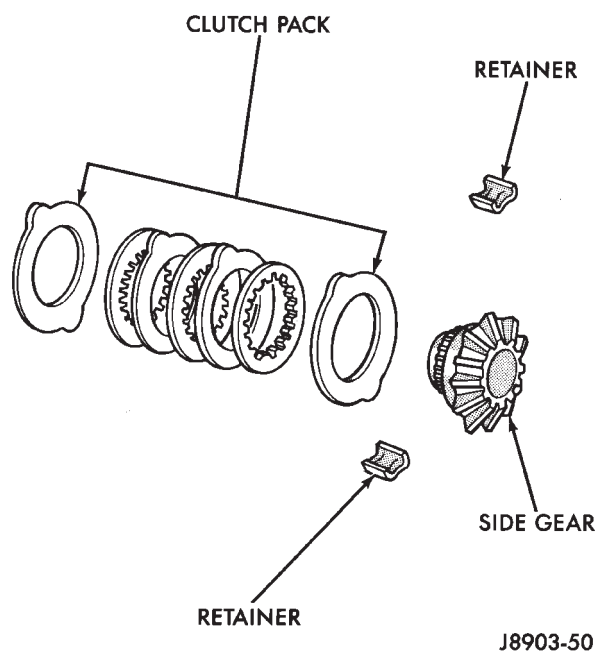
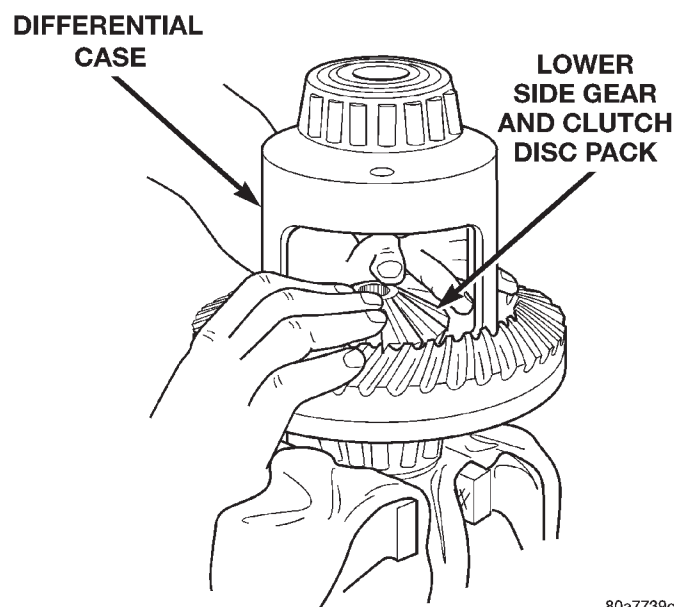
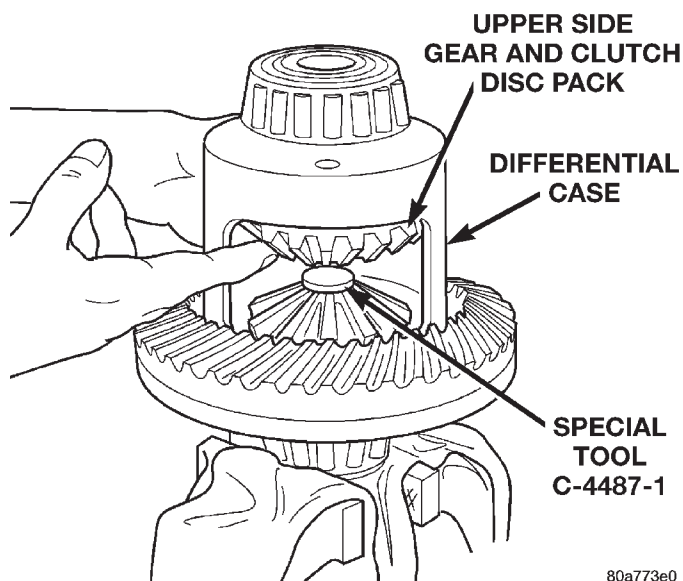

Fig. 63 Clutch Disc Pack
Fig. 64 Clutch Discs & Lower Side Gear Installation
Fig. 65 Upper Side Gear & Clutch Disc Pack Installation
- (1) Assemble the clutch discs into packs and secure disc packs with retaining clips (Fig. 63).
- (2) Position assembled clutch disc packs on the side gear hubs.
- (3) Install clutch pack and side gear in the ring gear side of the differential case (Fig. 64). **Be sure clutch pack retaining clips remain in position and are seated in the case pockets.**
- (4) Position the differential case on Side Gear Holding Tool 6963-A.
- (5) Install lubricated Step Plate C-4487-1 on side gear (Fig. 65).
- (6) Install the upper side gear and clutch disc pack (Fig. 65).